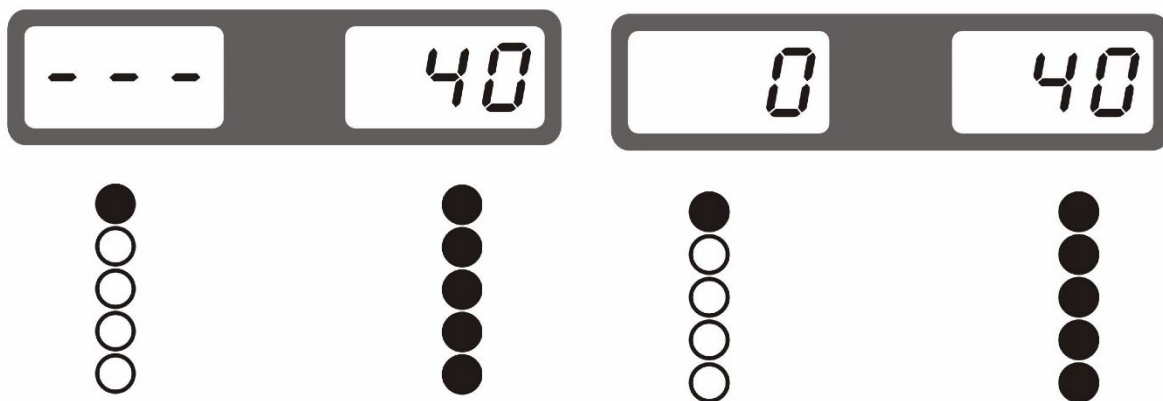

Abb.9
4. Rotate the wheel by hand as soon as all LEDs of the position indicator light up outside (Fig.9) the weight can be glued on the outside with the help of the measuring gauge.